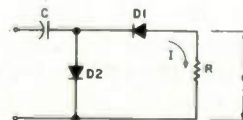

Fig. 6.
One interesting twist to the circuit (see Fig. 6) is that if we multiply the average current (I) by the resistance (R), we get (from Ohm's Law) a voltage, e. Our equation now becomes: $IR = e = RFCV$.